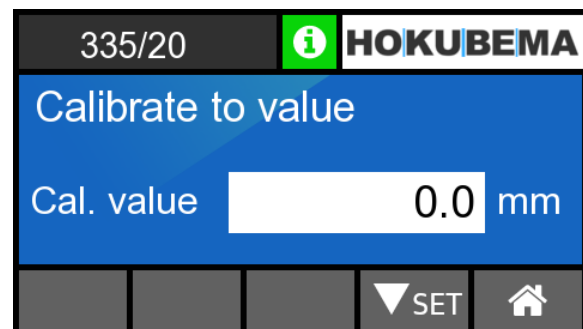

Figure 40: Calibration screen
- In the following screen, press the "Calibrate" button → The calibration screen opens (see ⇒ Figure 40).